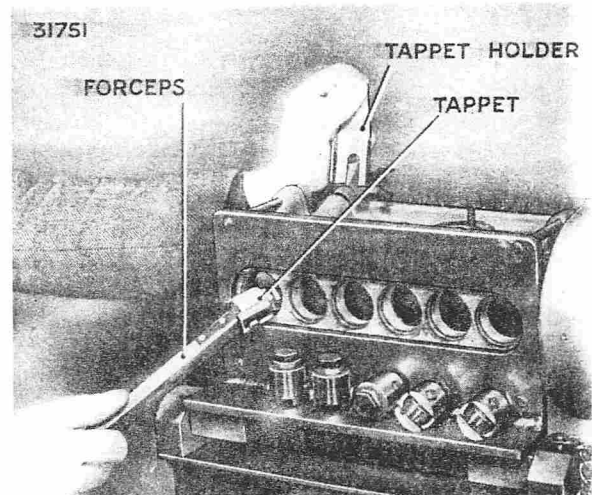

FIG. 36. REMOVING TAPPET ASSEMBLY
8. Push up the tappet assembly until it is possible to withdraw the tappet holder, after which the tappet assembly, lower spring plate, plunger spring, upper spring plate and plunger can be withdrawn through the base (Fig. 36).